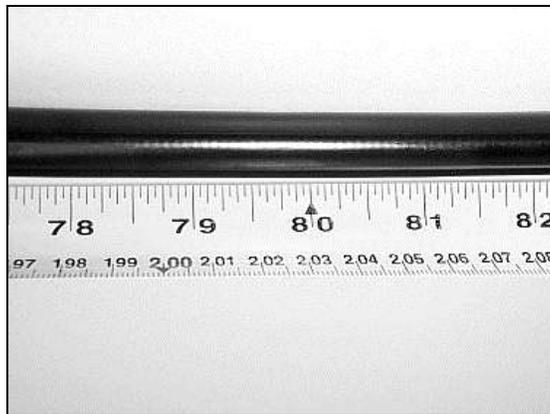

Figure 34 – Measure and mark the sheath opening.
6.17 Consult the splice closure instructions to determine the length of cable jacket that must be removed. Using the buffer tube reversal point as the middle of the jacket opening, measure equal distances on each side of the reversal point and mark the cable with electrical tape (Figure 34).